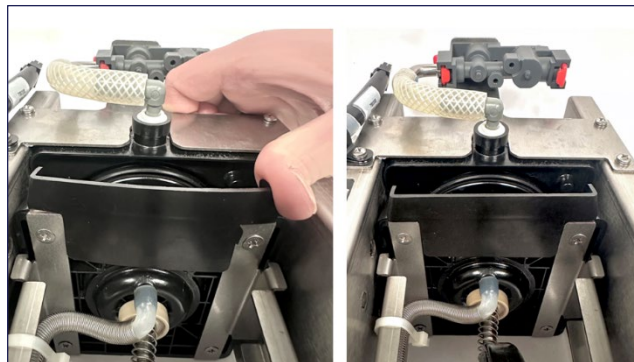

Fig. 4
8. Install the gutter onto the back side of the lower chamber (the side with the brew tube) by performing the following actions: (**Fig. 4**)